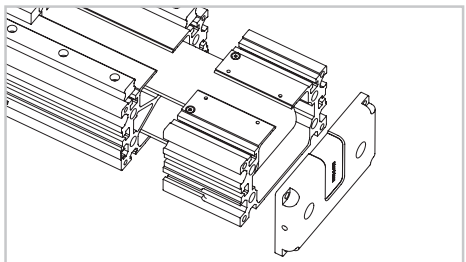

Fig. 12
- 13) Separate the idle head from the profile and remove the pulley (Fig. 12).